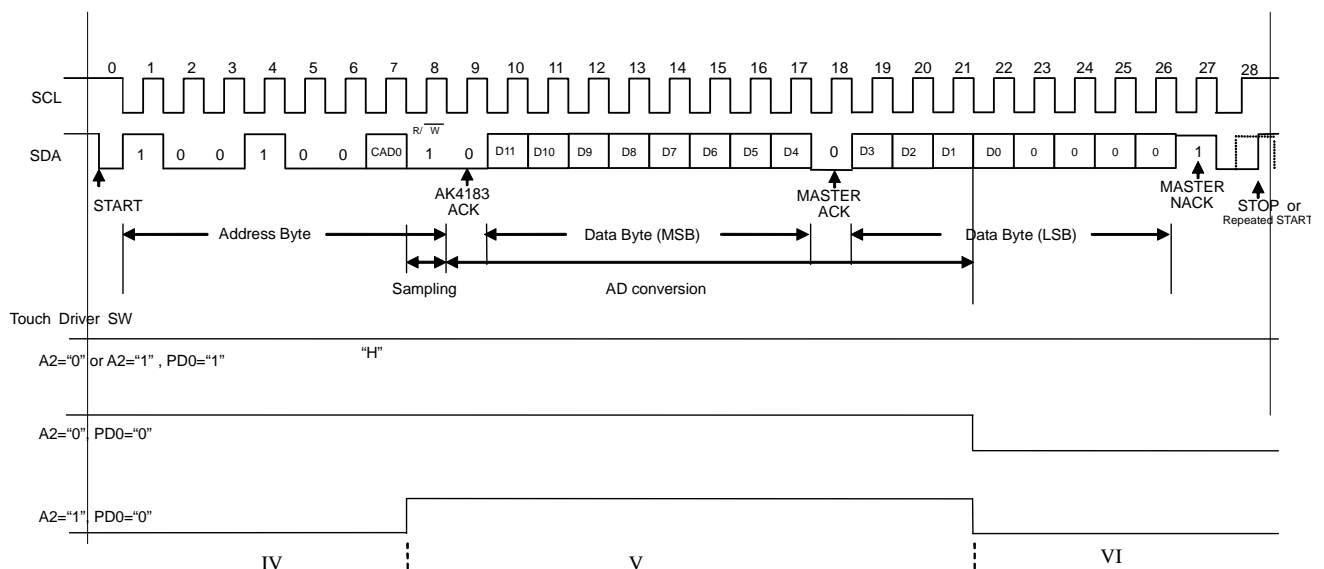

Figure 14 Read data Sequence
■ READ Operation Sequence (Figure. 14)
The clock number under the write and the read operation refer to Figure 13 and Figure 14.